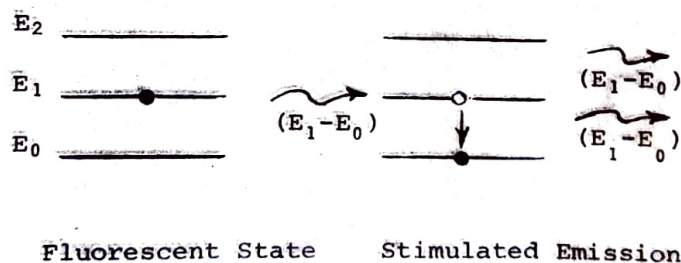

Figure 3. Amplification of Light Energy (Photons) by Stimulated Emission From Fluorescent State.
c. Stimulated emission may be thought of as the reverse process of absorption. In this case an induced downward transition occurs in which a photon liberates a new photon rather than being absorbed. (Figure 3 ). Amplification occurs in a material when stimulated emission overrides absorption, and this can occur only when there are more atoms in the fluorescent state than the ground state. When this occurs a population inversion is said to exist. In this case there is a higher probability that each impinging photon will liberate a new photon rather than be absorbed. This does not ordinarily occur in materials in their natural state because the atoms tend to exist in their ground state.